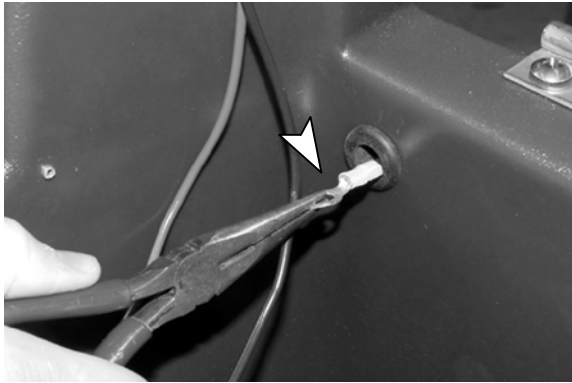

Fig. 5
7. Use needle nose pliers to help guide wire terminals through grommet.(Figure 5).